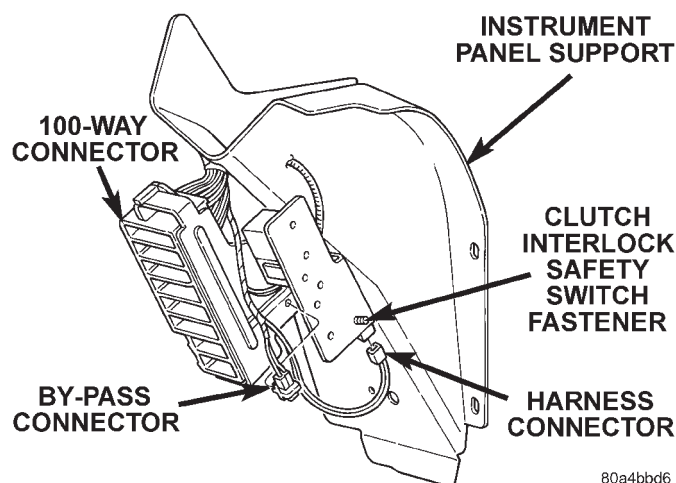

Fig. 1 Clutch Interlock Safety Switch By-Pass
(1) Disengage wire connector from clutch interlock safety switch, located under the instrument panel next to the 100-way connector (Fig. 1).
(2) Locate open by-pass connector, located next to the 100-way connector.
(3) Engage clutch interlock switch harness connector into by-pass connector (Fig. 1).